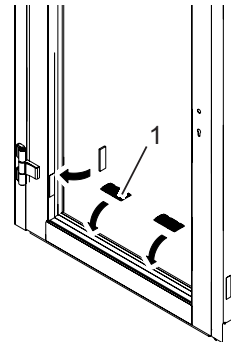

Fig. 34: Inserting the glazing blocks
1. Insert two glazing blocks (Fig. 34/1) on each side.